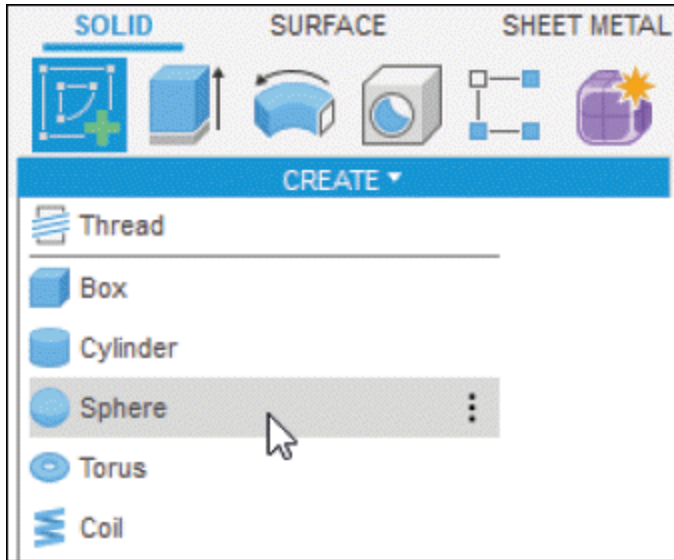

Figure-67. Sphere tool
- Click on the **Sphere** tool in **CREATE** drop-down from **Toolbar**; refer to Figure-67. You are asked to select the plane for creating the sketch for circle. Select desired plane/face.